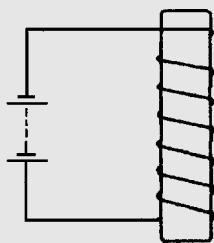
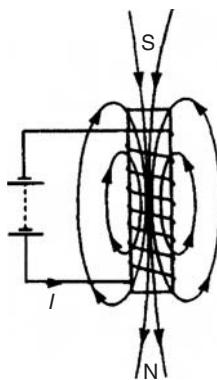

Figure 8.5
Figure 8.6
**Problem 1.** Figure 8.5 shows a coil of wire wound on an iron core connected to a battery. Sketch the magnetic field pattern associated with the current carrying coil and determine the polarity of the field.
The magnetic field associated with the solenoid in Fig. 8.5 is similar to the field associated with a bar magnet and is as shown in Fig. 8.6. The polarity of the field is determined either by the screw rule or by the grip rule. Thus the north pole is at the bottom and the south pole at the top.